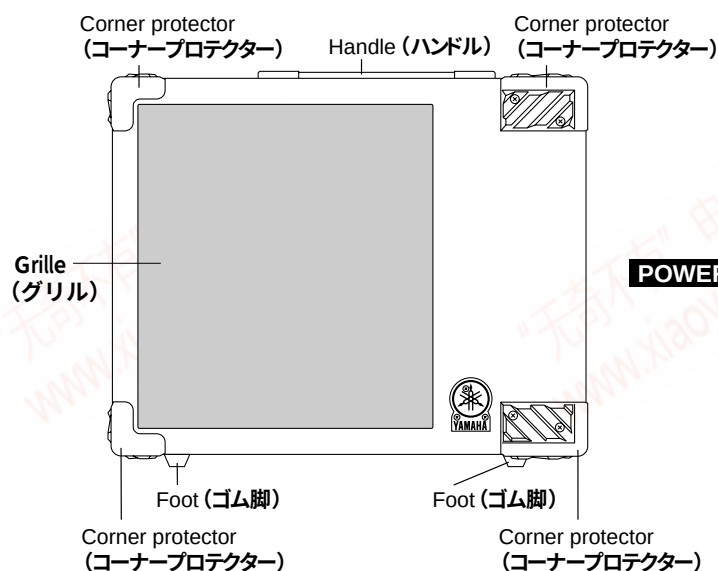

Fig.1 (図1)
- 1-1 Remove the two (2) screws marked [290]. The handle can then be removed. (Fig.1, Photo.1)
- 2-1 Remove the four (4) screws marked [240]. The corner protector can then be removed. (Fig.1, Photo.2)
* There are (8) eight corner protectors. Other corner protectors can be removed similarly.
- 1-1 [290]のネジ2本を外し、ハンドルを外します。(図1、写真1)
- 2-1 [240]のネジ4本を外し、コーナプロテクターを外します。(図1、写真2)
3-1 Remove the screw marked [320]. The foot can then be removed. (Fig.1, Photo.3)
3-1 [320]のネジ1本を外し、ゴム脚を外します。(図1、写真3)